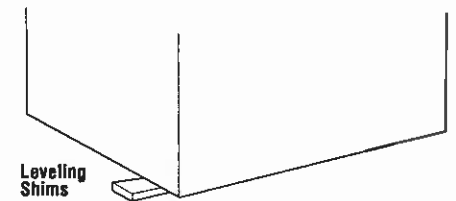

Figure 8
**Step 4.** Fireplace may be anchored to floor. First, level fireplace side to side and front to back using shims (Figure 8).